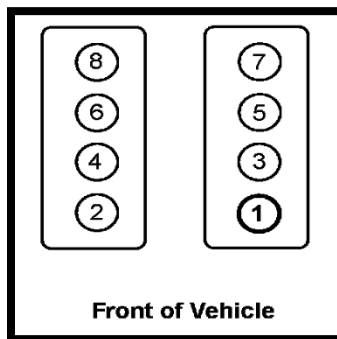

Figure 23
**[Required]** The fuel injector harness is labeled by cylinder. Please refer to **Figure 23** below for proper LS cylinder number identification.